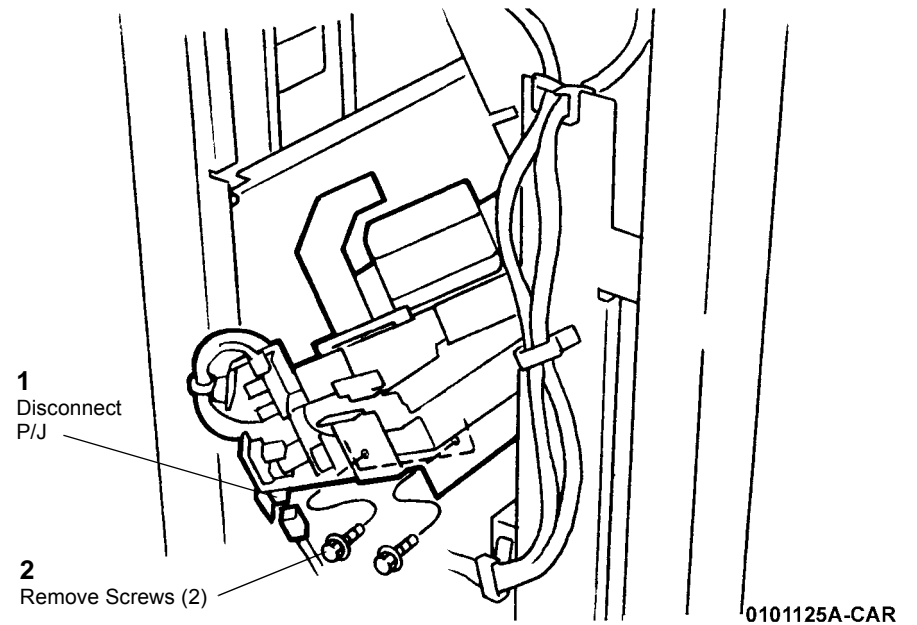

Figure 6 Removing Front Rail Mounting Screw
7. Remove Front Rail Mounting Screws (2) (Figure 6).